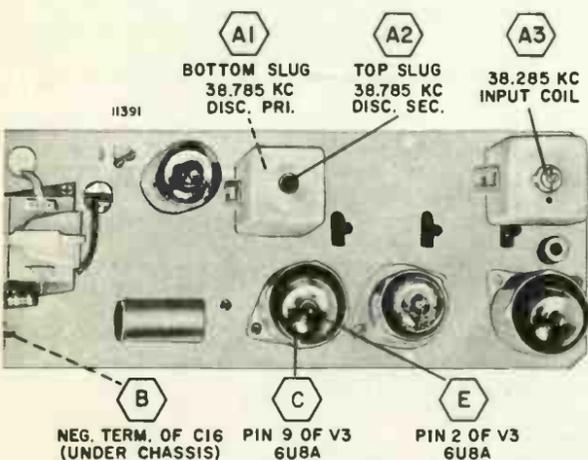

Figure 51. Partial Top View of Remote Amplifier Chassis 4H3 Showing Alignment Points and Adjustment Locations.
- Turn TV set, signal generator, and VTVM on and allow 15 minutes warm up. Set TV B+ and filament circuits "open" by setting VHF tuner to "OFF" position (between channels 13 and 2). See figure 51 for location of adjustment and alignment points.